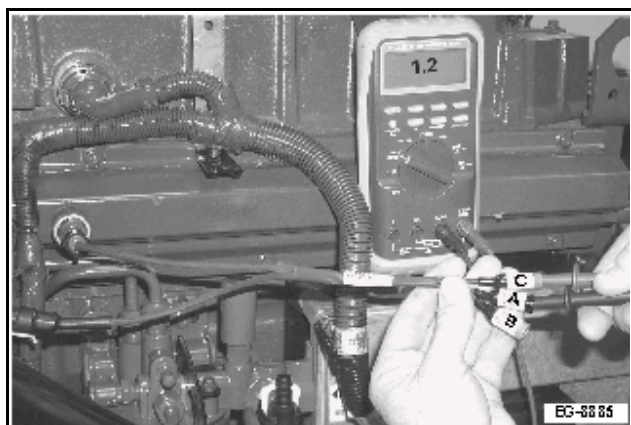

Figure 44 Measuring Injection Control Pressure (Voltage)
3. Connect Digital Multimeter (DMM) leads (red +) to the Breakout Tee Signal Circuit (green), and (black –) to the Signal Ground (black) as shown in photo Measuring Injection Control Pressure (Voltage) (See Figure 44, page 82).